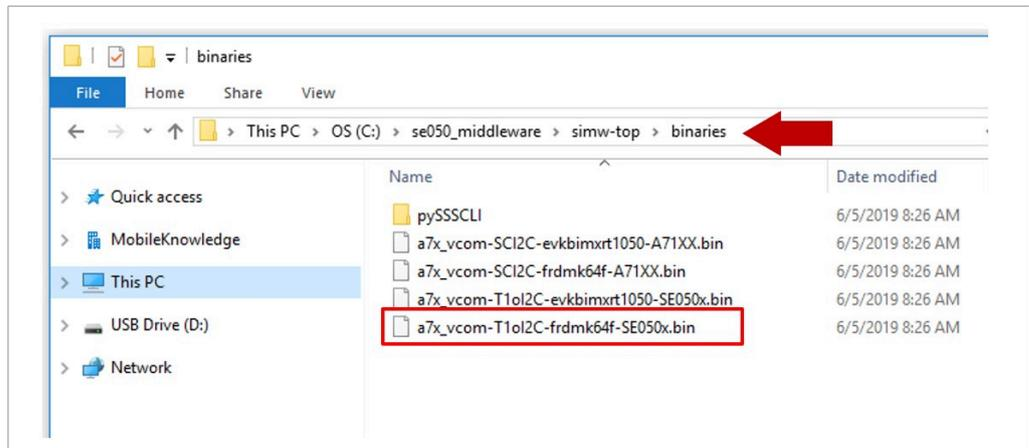

Figure 39. VCOM binary folder
- 3. Flash the VCOM software to FRDM-K64F. The VCOM software binary can be found in the EdgeLock SE05x Plug & Trust middleware package, inside the `simw-top` \binaries folder as shown in Figure 39: